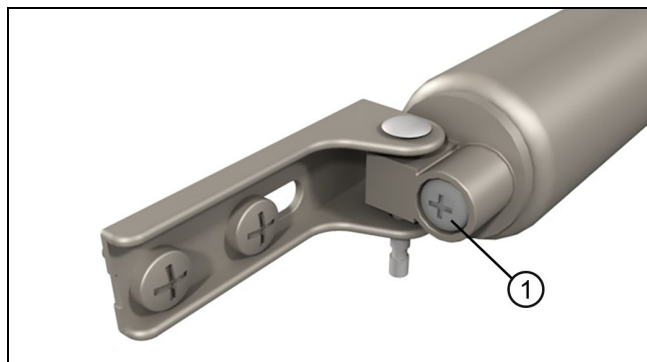

Figure 18
1. To vary the closing speed of the screen door, use a screwdriver to rotate the closing speed adjustment screw located at the door bracket end of the cylinder assembly. See Figure 18.